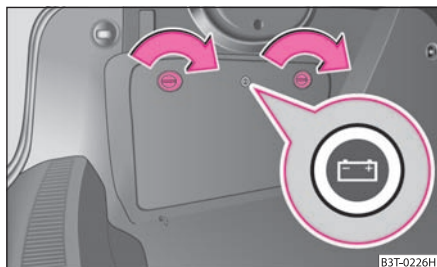

Fig. 192 Luggage compartment: Battery behind the cover
- You can open the compartment with the symbol  by turning the securing pins e. g. with a coin or using a flat screwdriver in direction of arrow ⇒ fig. 192.